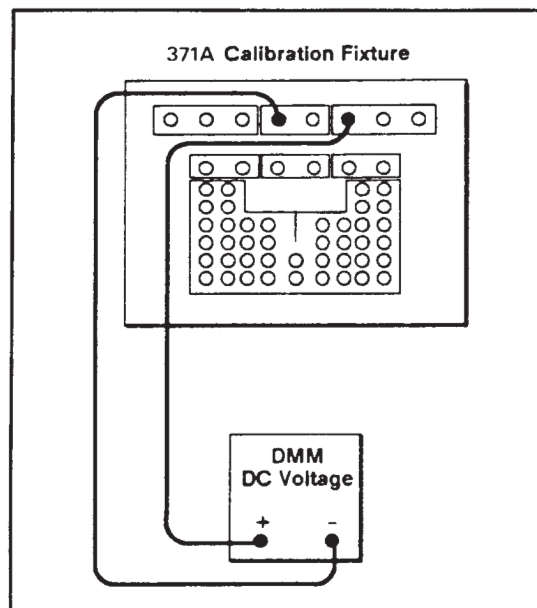

Figure 4-14. Calibration Fixture connections for checking Incremental Accuracy.
1. Connecting the X1 probe tip from the test oscilloscope to the STEP GENERATOR VOLTAGE terminal and the ground lead to the COMMON terminal plugs as shown in Figure 4-14.
4. Connect the digital multimeter between the STEP GENERATOR VOLTAGE terminal and the COMMON terminal as shown in Figure 4-14.